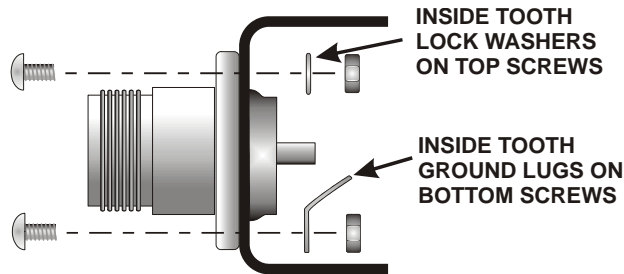
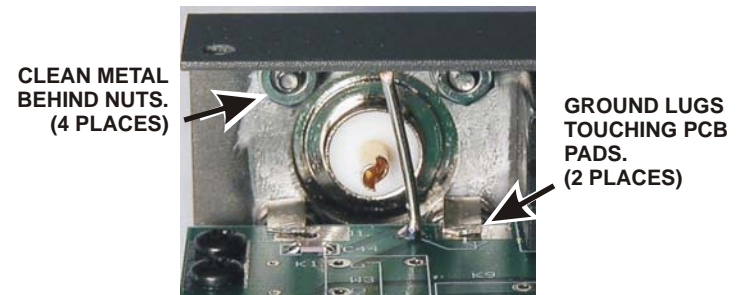

Figure 30. Mounting the Antenna Connector J1 on the Back Panel.
Figure 32. Mounting Antenna Connector J1.
□ Mount antenna connector J1 on the cabinet back panel using four 5/16" 4-40 pan head zinc or stainless screws, lock washers, nuts and *two* ground lugs as shown in Figure 30 and Figure 32. Be sure both ground lugs on the lower screws face upward as shown. Be sure all four screws are tightened.
- Bend the lugs down so they rest against the tinned areas on the PCB when the rear panel is secured to the 2-D fasteners (See Figure 32). This is easiest to do if you remove the panel to adjust their positions. Do not solder until instructed to do so.